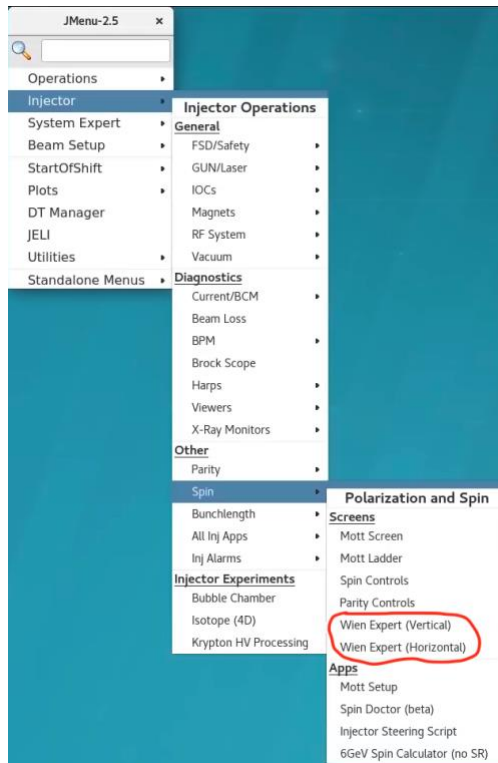
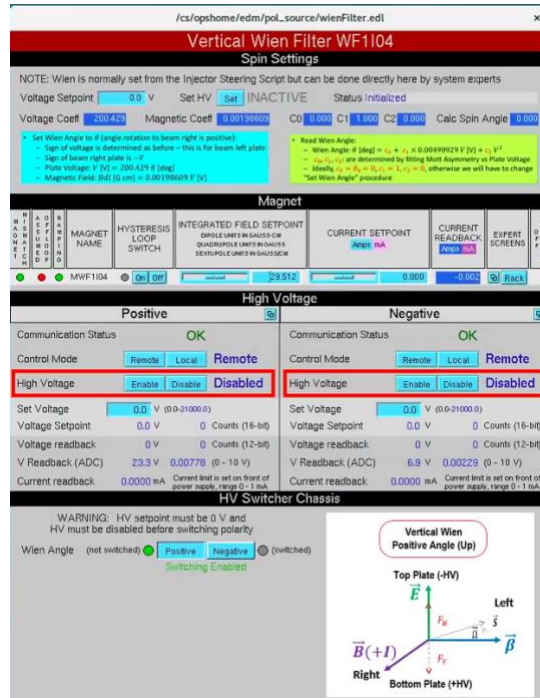
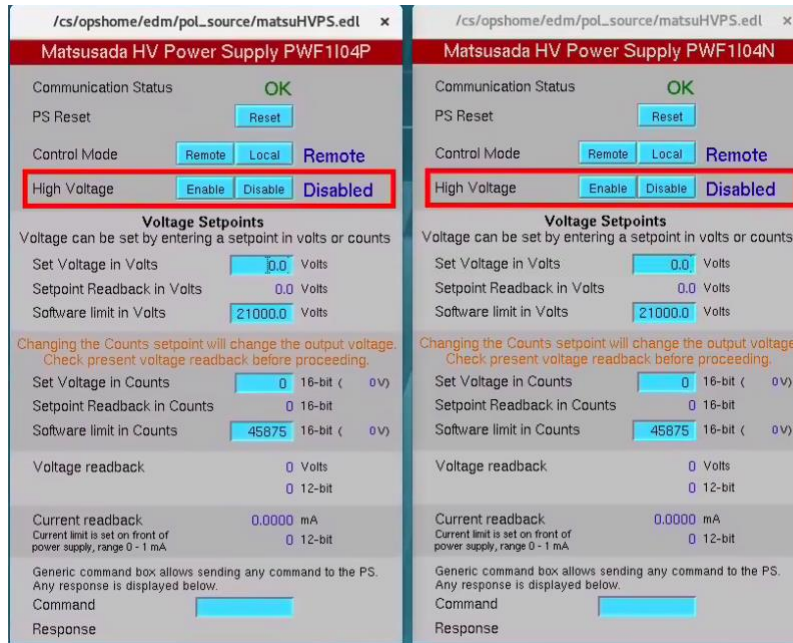

Figure 3: JMenu entries for the Wien expert screens.
Figure 4: Wien filter expert screen. In this example, both HV supplies are disabled, and the polarity switch is set to positive.
Figure 5: High-voltage power supply expert screen.
as shown in figure 3. Figure 4 shows the V-Wien expert screen as an example.
- High Voltage: Similarly, the High Voltage is nominally Enabled and can be toggled using the buttons. The example in Fig. 4 shows both positive and negative HV Disabled .
Figure 4 shows the V-Wien in the positive Wien angle configuration. Because both positive and negative HV are disabled, the green lettered “Switching Enabled” is displayed. A diagram made by R. Suleiman depicts the fields, forces, beam and Wien angle configuration according to the set polarity. If the polarity is changed, the diagram changes accordingly.
The secondary expert screen shown in Fig. 5 is launched by clicking the top right button in the positive or negative high voltage section of the Wien filter expert screen (Fig. 4), respectively. This screen has the same high-voltage controls functions found in the Wien Expert screen, but additionally :
1. Proceed to a computer terminal and open the Vertical and the Horizontal Wien Controls screen (Fig. 4). Ensure Control Mode is set to REMOTE in both the Positive and Negative High Voltage control screen sections. If not, click the Remote button in both the Positive and Negative control screen sections.
9. Press the HV enable toggle switch. The switch will not illuminate because the High Voltage is still DISABLED in the controls screen (Fig. 4).
1. Check the Wien Angle polarity in the HV Switcher section of the desired Wien filter expert screen (Figure 5). If the polarity is the one desired, proceed. If not, go the “changing polarity” section below.